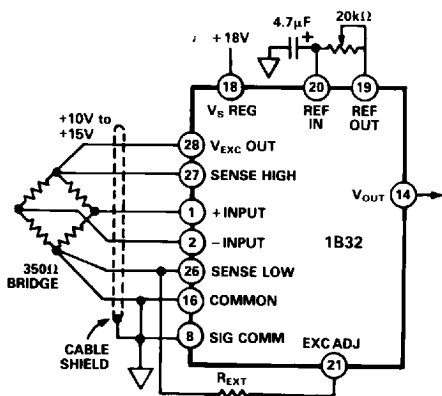

Figure 4. Constant Voltage Excitation: +10V to +15V Range.
**Voltage Excitation Programming:** The excitation voltage is preset to +10V. To increase  $V_{\text{EXC}}$  up to +15V a resistor must be connected between EXC ADJ and SENSE LOW (Pins 21 and 26) as shown in Figure 4.